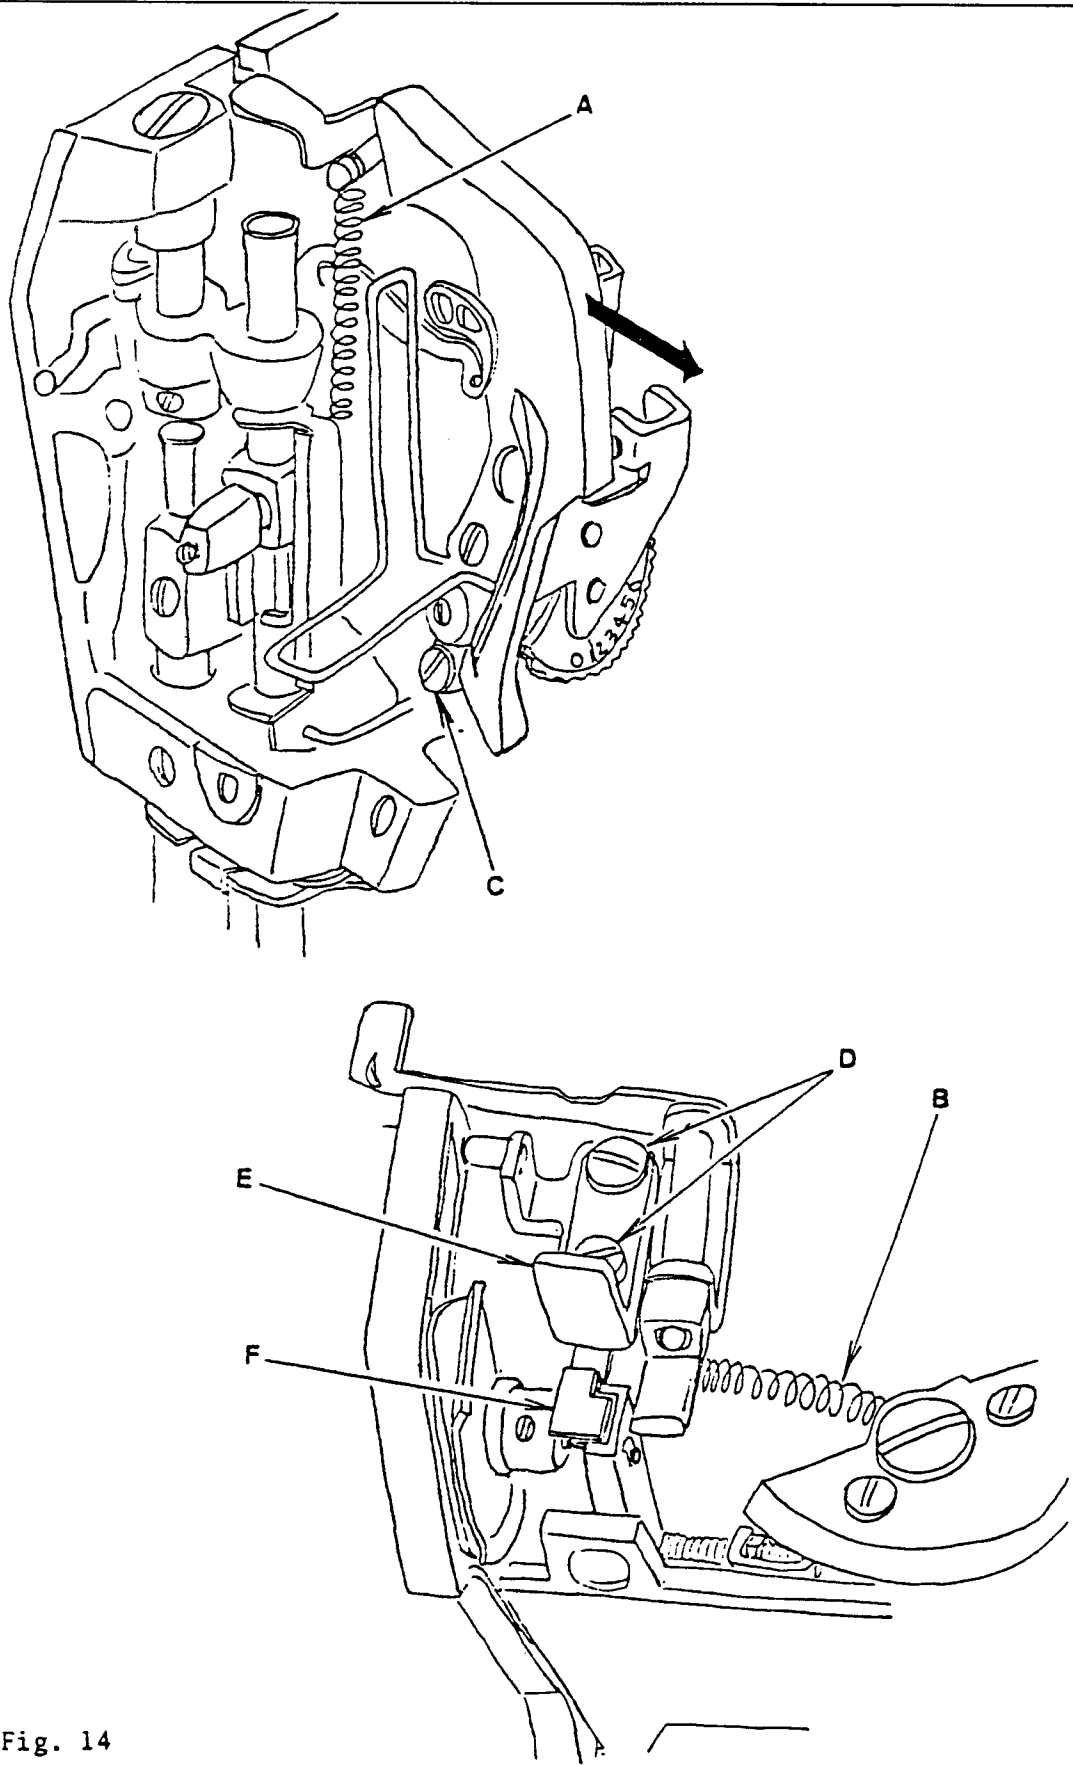

Fig. 14
2. Remove needle bar latch carrier spring (A) and releasing lever spring (B). (Fig. 14).
3. Remove lower tension mounting screw (C).
4. Remove the two upper tension mounting bracket screws (D).
5. Remove tension regulating slide plate supporting plate (F); then lift off tension module.